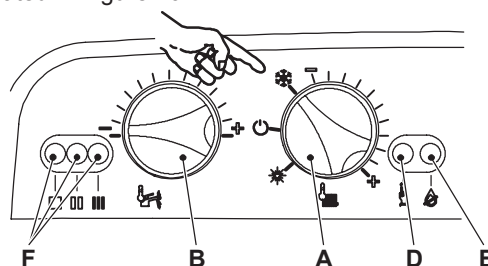

Figure 10.12
- 1 Turn the boiler ON positioning the function selector knob A as indicated in Figure 10.12.